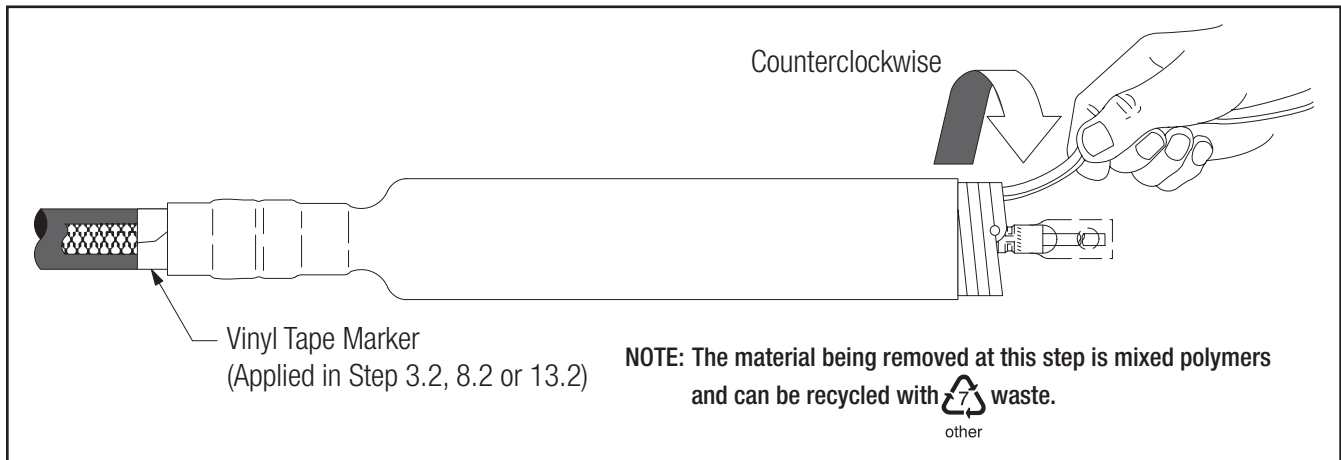

Figure 28
17.1 Slide the tubular termination body onto the cable and remove core. Make sure the termination body (not the core) is butted up to the edge of the vinyl tape marker previously applied (Figure 28). Pull the core while unwinding, counterclockwise, starting with the loose end (Figure 28). Be sure to alternate the pulling and unwinding actions (pull-unwind-pull-unwind-etc.) to help prevent the core material from binding up as the core is being removed.